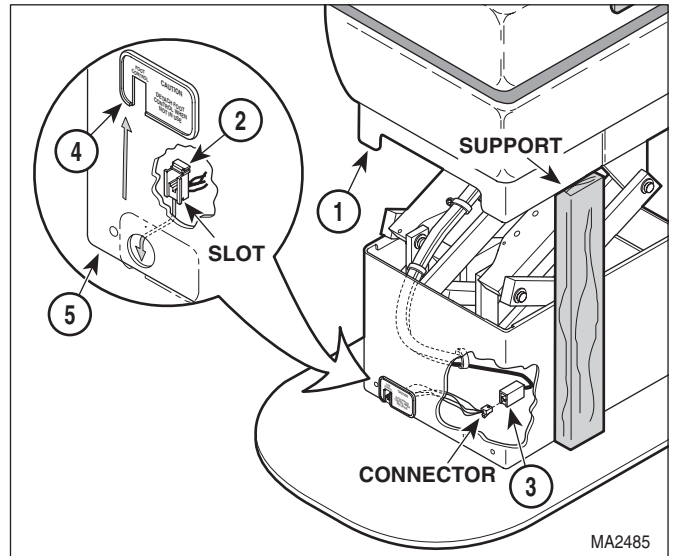

Figure 4-9. Foot Control Plug-In Port Removal / Installation
- (1) Raise outer shroud (1, Figure 4-9) and prop it up with a support.